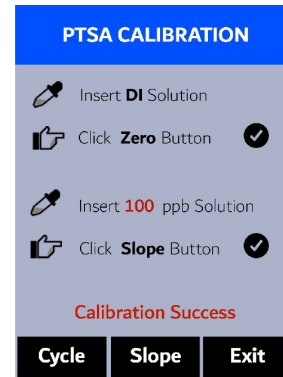

Figure 5.
10. If the calibration succeeds, a checkmark (  ), a "Calibration Success" message will appear (Figure 5). Otherwise, a warning message is displayed.